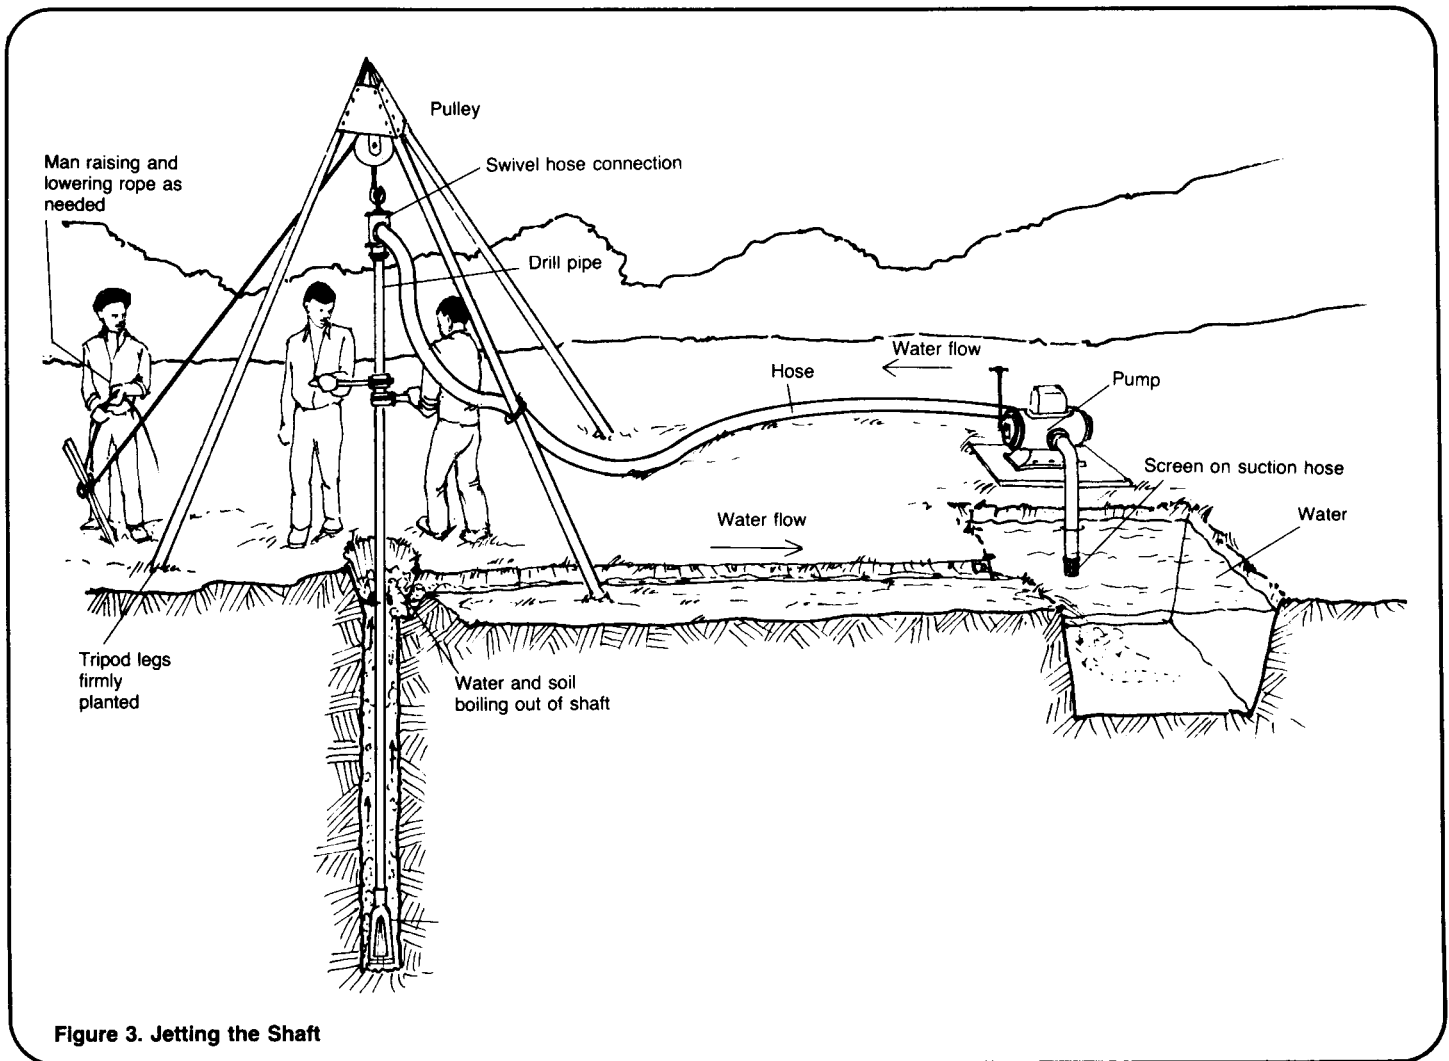

Figure 3. Jetting the Shaft
from the starter hole to the settling pit. Fill the settling pit with water. See Figure 3.
8. The pump will begin to force water from the settling pit, through the hose, and out through the jetting bit. The workers should turn the drill pipe with the wrenches. The swivel hose connection will allow the pipe to turn without leaking water. The jetting action of the water and the rotating of the drill pipe and bit will cause the pipe to sink into the ground. Water and suspended matter will boil up around the sides of the drill pipe, then flow through the trench into the settling pit. The solid matter will settle and the water will be re-pumped. See Figure 3.